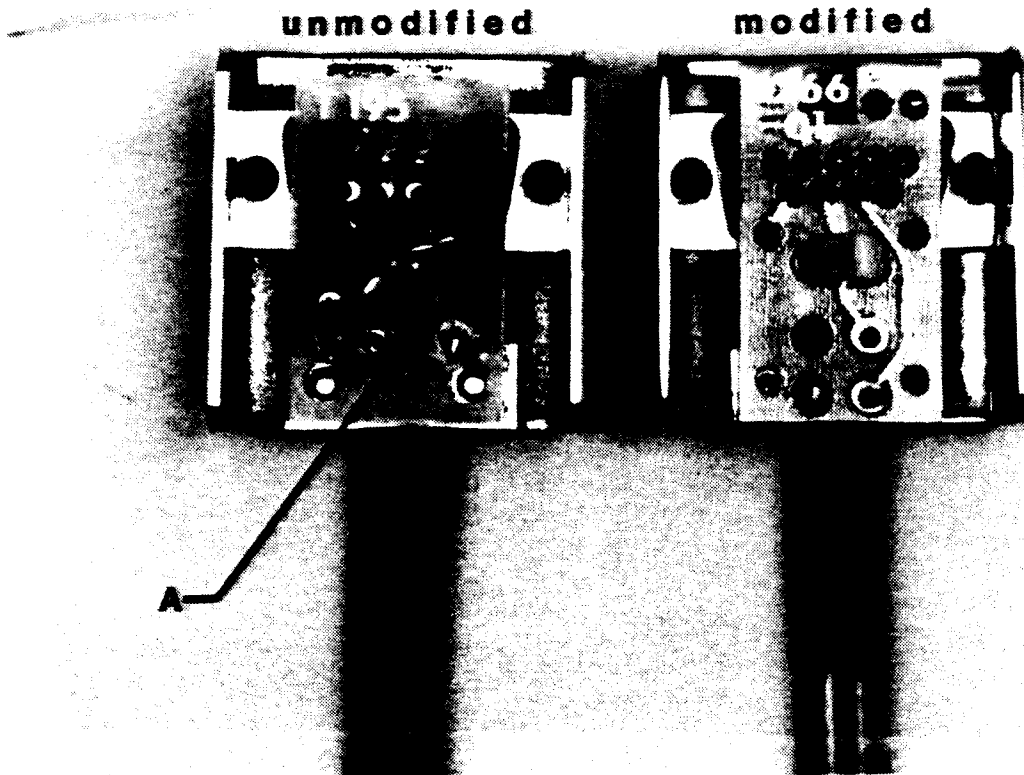

Figure D-1. Unmodified (left) and new modified (right) SC235. (A) - to modify remove the .001 ufd capacitor and replace with wire tie.
In February 1980, circuit card T195 was added to the backshell and two (2) component changes were made, including the addition of a .001 ufd capacitor in the data signal line. In November 1981, the modified version became the standard SC235. The circuit card was modified and labeled as #1266-01. In the modified version, the component side is down when viewed after removing the backshell cover. Figure D-1 shows the unmodified and modified backshell. The T195 card can be modified by replacing the .001 ufd capacitor with a wire tie.